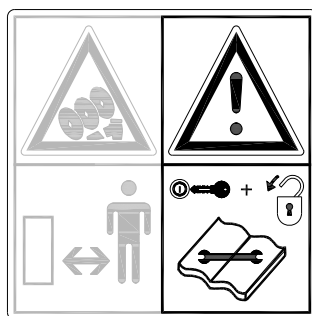

Fig. 2
**Always switch off the tractor engine, remove the tractor ignition key and disconnect PTO shaft** when performing maintenance, adjustment and repair activities. (Fig.2)